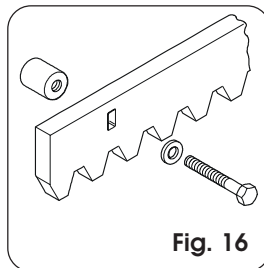

Fig. 16
**4.4.2. STEEL RACK TO BE SCREWED (Fig. 16)**
- 5) Fit another rack element next to the previous one, using a piece of rack, as shown in Fig. 16, to synchronise the teeth of the two elements.